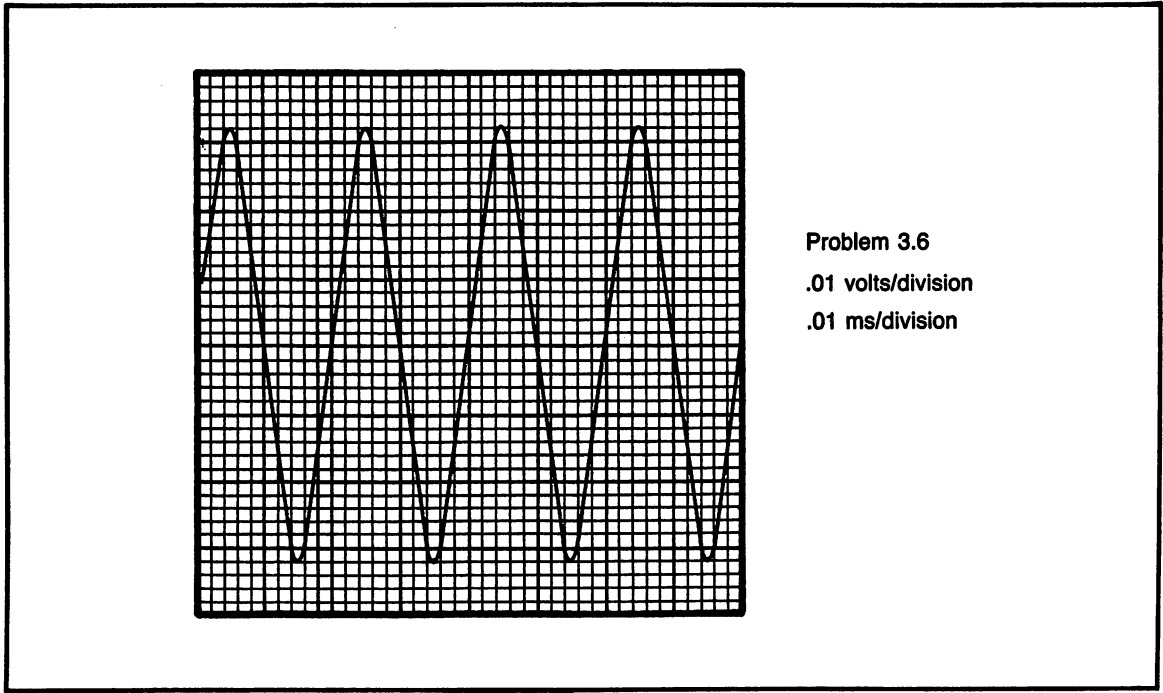

Fig. 11-20. Problem 36: .01 volts/division; .01 ms/division.
- (36) Figure 11-20; a) p-to-p voltage b) frequency